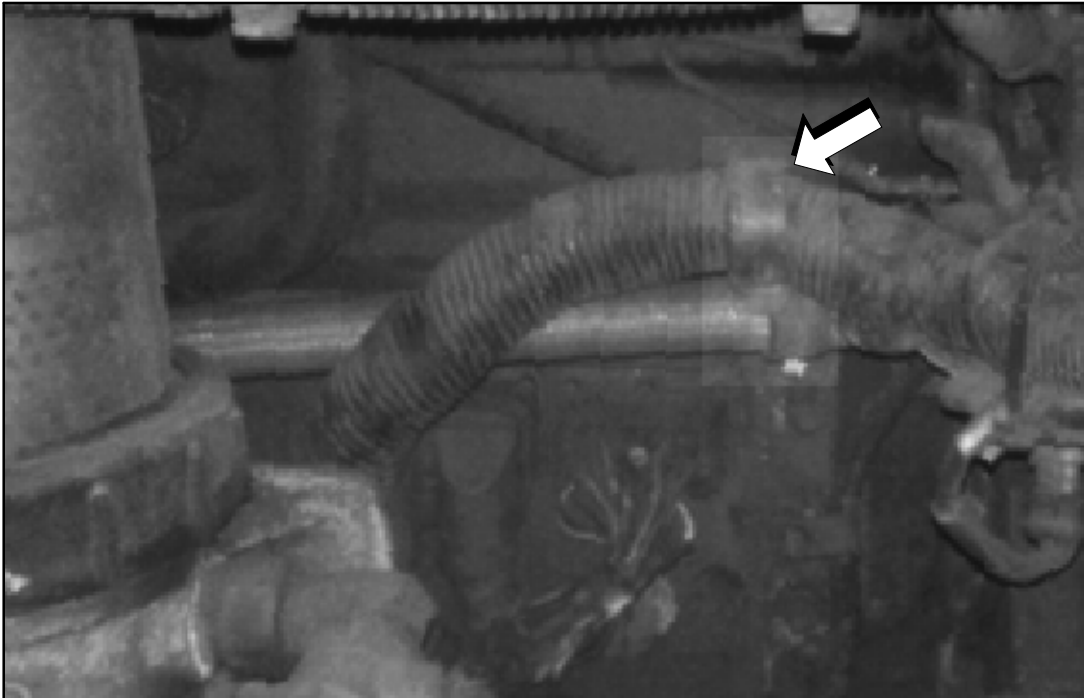

Figure 1. Curbside, rear, side service compartment.
4. Locate the engine harness shown in Figure 1.
5. Locate and remove the existing p-clamp and mounting hardware in the location shown in Figure 1. Discard the existing p-clamp and mounting hardware.